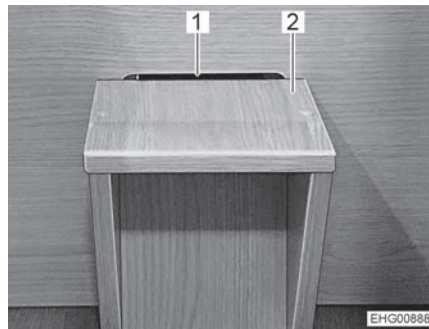
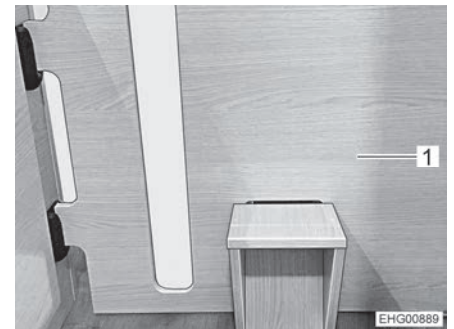

Fig. 65 Step unit
Fig. 66 Partition wall with step unit
- Attach the step unit (Fig. 65,2) to the bottom cut-out (Fig. 65,1) of the partition wall (Fig. 66,1).
- Insert the partition wall (Fig. 66,1) between the longitudinal rear beds. In order to do this, attach the partition wall in the second position (as seen from the kitchenette).